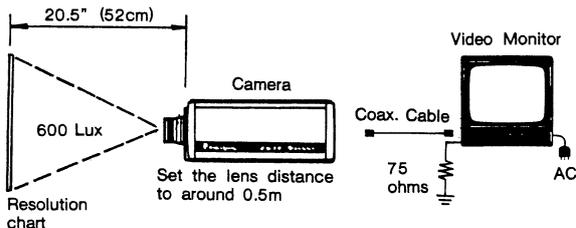

Fig. 5
- Position the resolution chart (YWV1400RB99) in front of the camera as shown in Fig. 5.
- Set the distance between the camera and chart to 20.5 inch (52cm) as shown in Fig. 5.